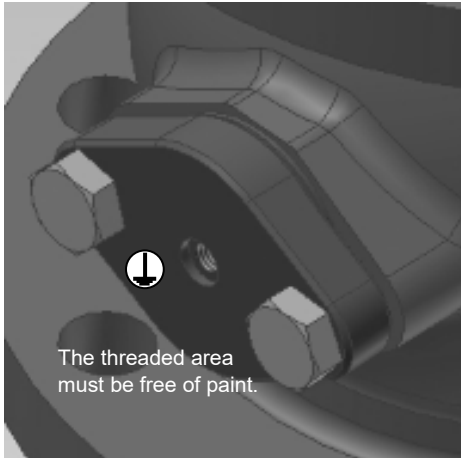

Fig. 5-1: Ground connection Valve Type 72, 73, 82
- The ground connection is provided. See Fig. 5-1.